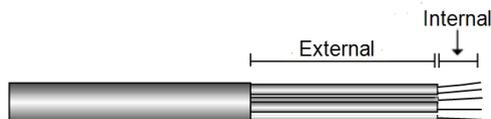

Figure 15: Insulation stripping – AC
- Strip 8mm of the grounding wire insulation (see Figure 15).